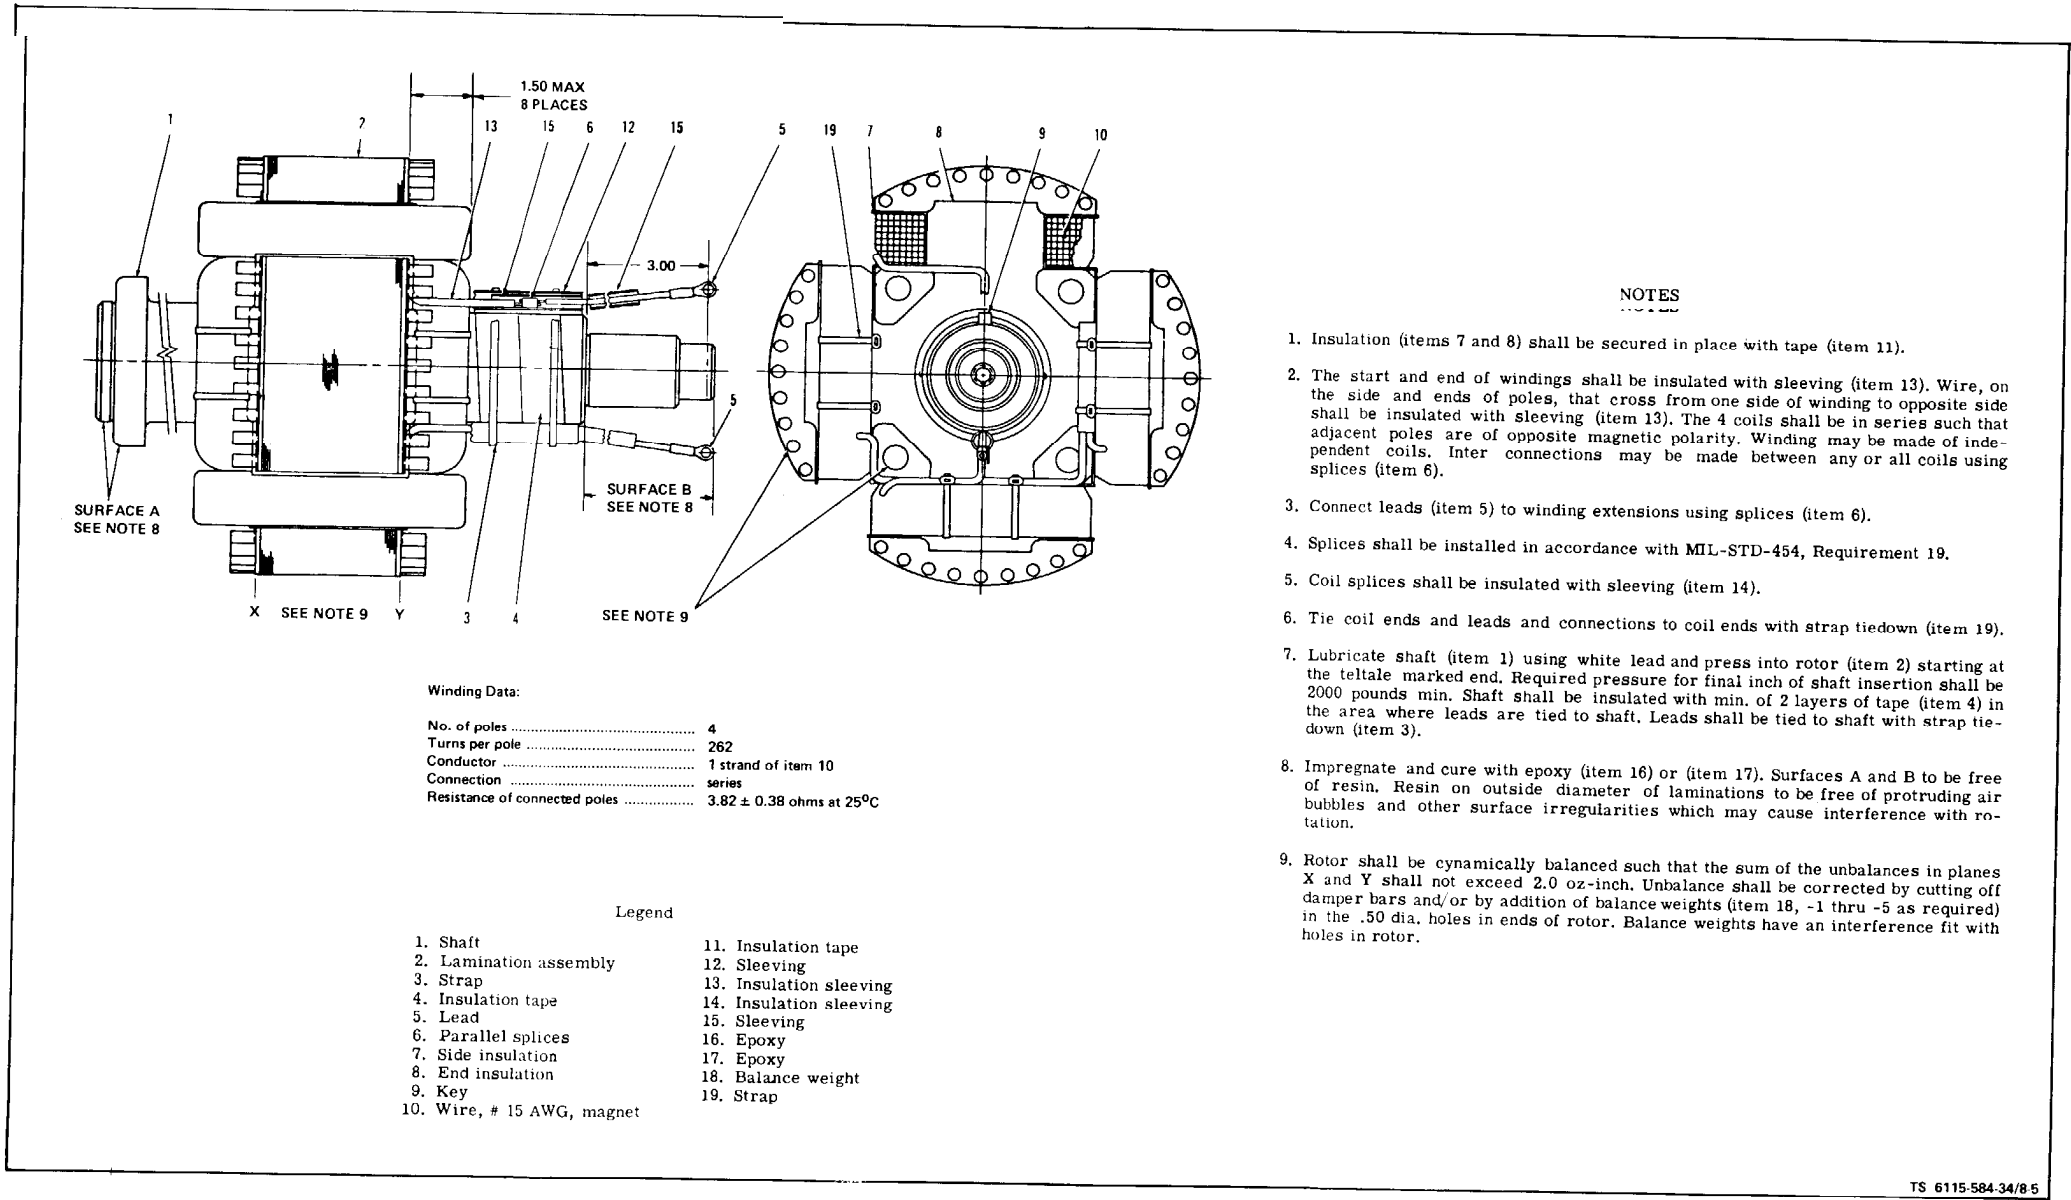

Figure 8-5. Generator Rotor Winding Data
(2) Generator rotor (see figure 8-5).